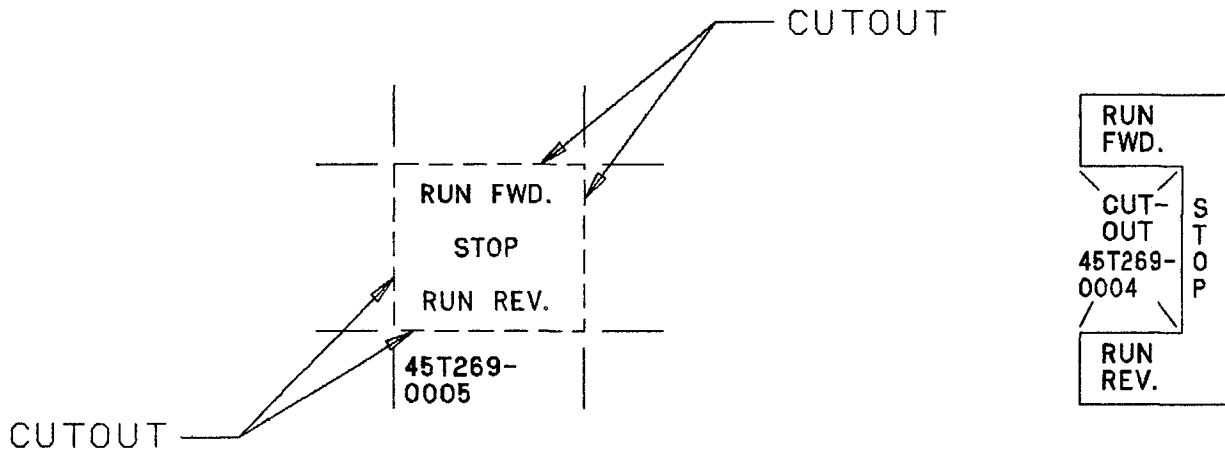

Figure 3.
10. This kit contains two adhesive backed switch nameplates. These nameplates are designed to cover the original "RUN-STOP" caption on the OCS plate. Only one of the nameplates (dependent on style of drive) will be used. Select the nameplate that appropriately covers the original captions and cut excess as shown on Figure 3. Remove backing from nameplate and press into place on the OCS plate.